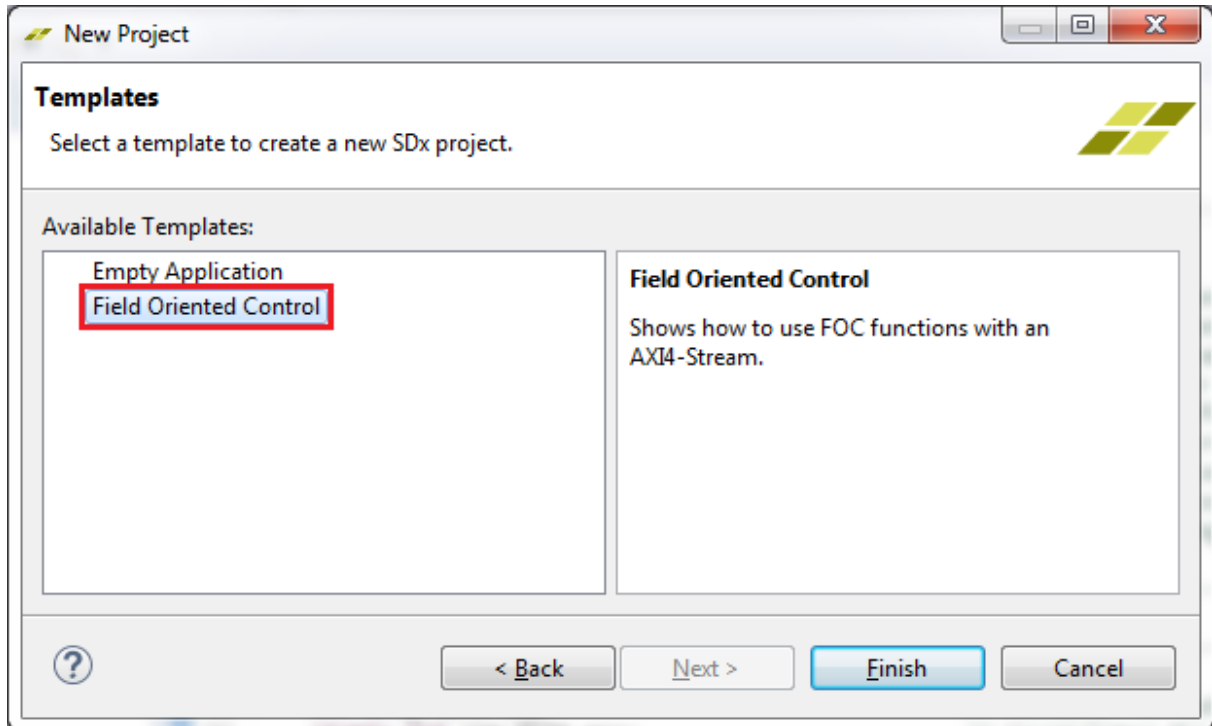

Figure 1.2 Wizard page Available Templates with the sample application Field Oriented Control.
7. In the list Available Templates, select Field Oriented Control (see Figure 1.2). Click OK. A new project will be created.